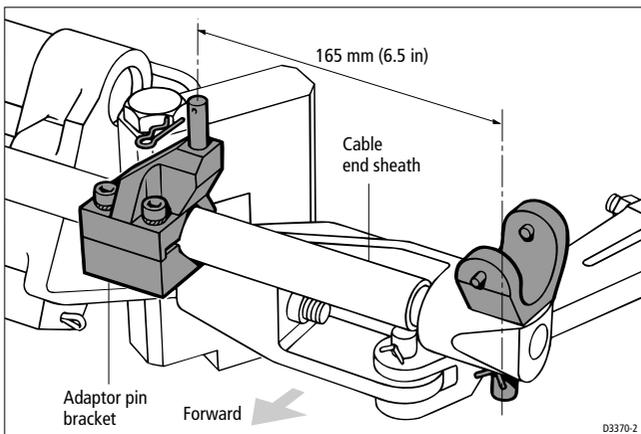

Figure 8: Fitting the adaptor pin bracket (MerCruiser 93/OMC/Yamaha)
- assemble the adaptor pin bracket onto the steering cable end sheath, 165 mm (6.5 in) from the girdle support bracket (as shown in *Figure 8*)